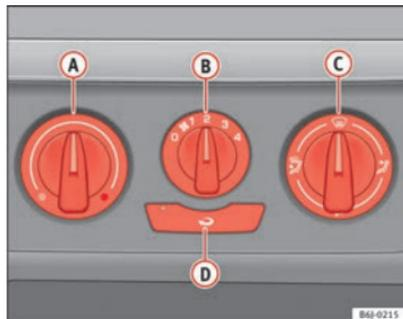

Fig. 92 Heating controls on the dash panel
- Turn the temperature selector ⇒ fig. 92 **A** anti-clockwise.
- Turn the temperature selector ⇒ fig. 92 **A** clockwise to select the desired temperature.
- Turn the temperature selector ⇒ fig. 92 **A** clockwise to reach the maximum temperature.
- Turn the temperature selector ⇒ fig. 92 **A** to the heating area. ▶